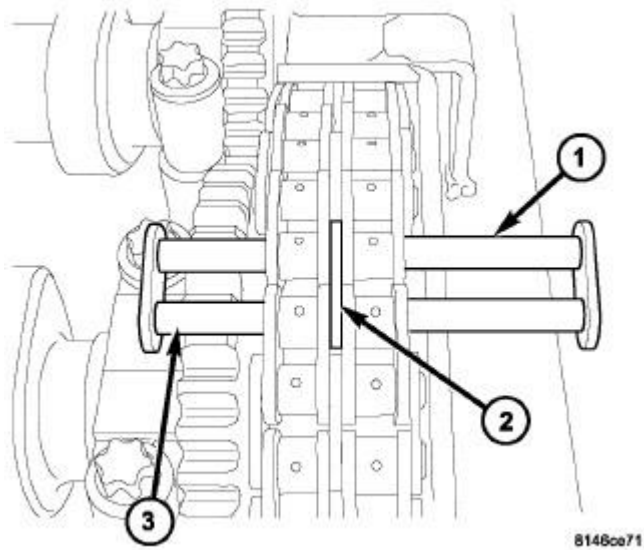

Fig. 299: LINK PLATE HOLDER
3. Remove assembly link locking element (4), outer plate and link. See Fig. 299 .